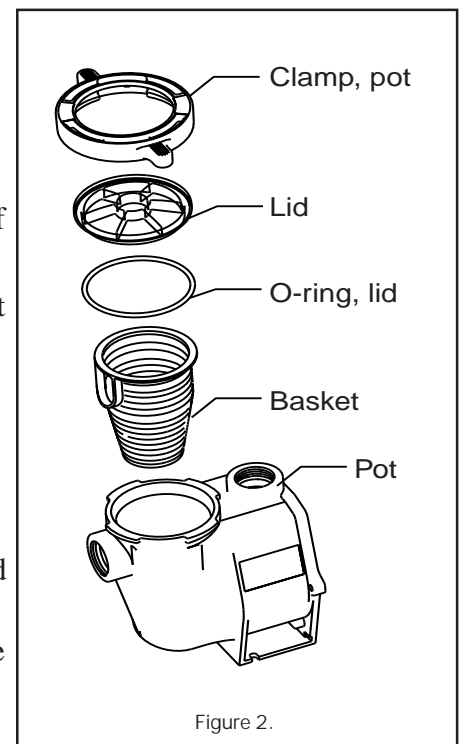

Figure 2.
8. Reinstall the lid by placing the clamp and the lid on the pot; see Figure 2.